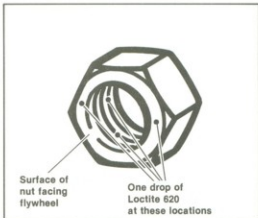

Figure 3-52. Retaining Compound Locations
Prior to assembly apply one drop of Loctite RC/620 on the threads and one drop on the bearing surface at two points 180 degrees apart on the flywheel assembly nuts (9), (5), (12) and (1). See Figure 3-52.